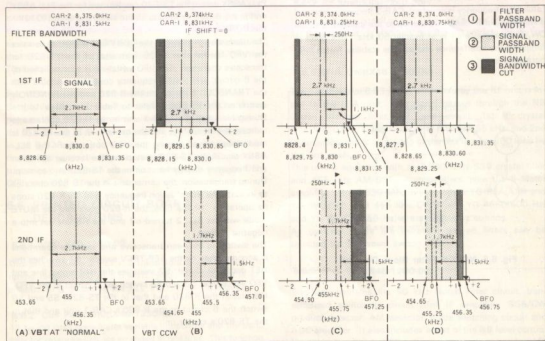

Fig. 5.4 VBT Operation
Fig. 5-4 (A) shows filter F2 and F5 characteristics and the signal status where the VBT(CAR-2) is set to 8.375 kHz and CAR-1 to 8.8315 kHz. Since the filter characteristic coincides with the signal, the passband is 2.7 kHz.
Fig. 5-4 (B) shows CAR-2 set to 8.374 kHz and CAR-1, interlocked with the VBT, set to 8.831 kHz. In this instance, with the VBT control counterclockwise the signal passing through F2 is shifted down by 500 Hz. Bandwidth of the signal passing through the 8.830 kHz filter is 8,828.65-8,830.85 kHz, or 500 Hz narrower than "normal". Thus, filter bandwidth becomes 2.2 kHz, and the signal passing through the 455 kHz filter becomes 455.5 kHz \pm 850 Hz- the overall bandwidth of signals passing through F2 and F5 is therefore 1.7 kHz.
Fig. 5-4(C) shows CAR-1 set to 8,831.25 kHz with the VBT control positioned as in Fig. 5-4(B) and the IF SHIFT control adjusted clockwise. Since CAR-1 has been set to 8,831.0 kHz (in Fig. 5-4(B)), the signal center frequency is 250 Hz higher even when the IF SHIFT control is centered.
In this case, signal bandwidth through F2 is 8,828.65 — 8,831.1 kHz or 2.4 kHz which is 250 Hz narrower than "normal", where the signal through F5 is the same as in Fig. 5-4(B). The difference frequency (8,831.25 — 8,374.0) between CAR-1 and CAR-2 is 457.25 kHz, which is a Carrier frequency 1.75 kHz higher than the sum of F2 and F5 composite center frequency.
Consequently, the bandwidth is 1.7 kHz, and filter center frequency is shifted +250 Hz as compared to ANT input. Fig. 5-4(D) shows 1.7 kHz bandwidth as in Fig. 5-4(C), but with the center frequency shifted -250 Hz.